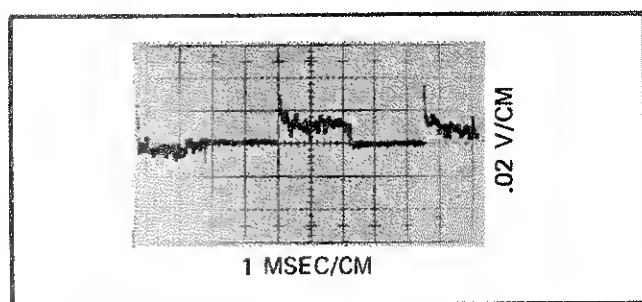

Figure 4-7. CHOPPER AMPLIFIER SIGNAL -- TP10
- g. Compare display with the waveform shown in Figure 4-7, which indicates proper adjustment of spike compensation control R162. The signal is acceptable if the positive and negative spike amplitudes are less than 0.3 volts.